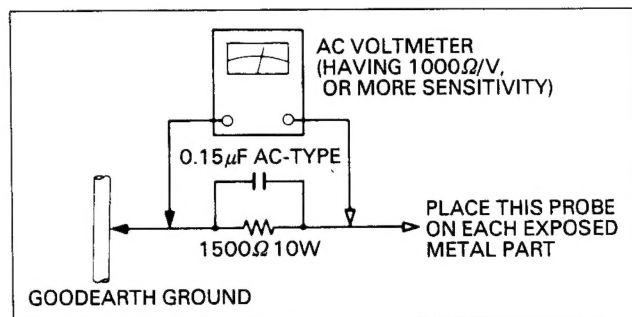

Fig. 1
1. Remove screws A and B on the upper part of front panel shown in Fig. 1.